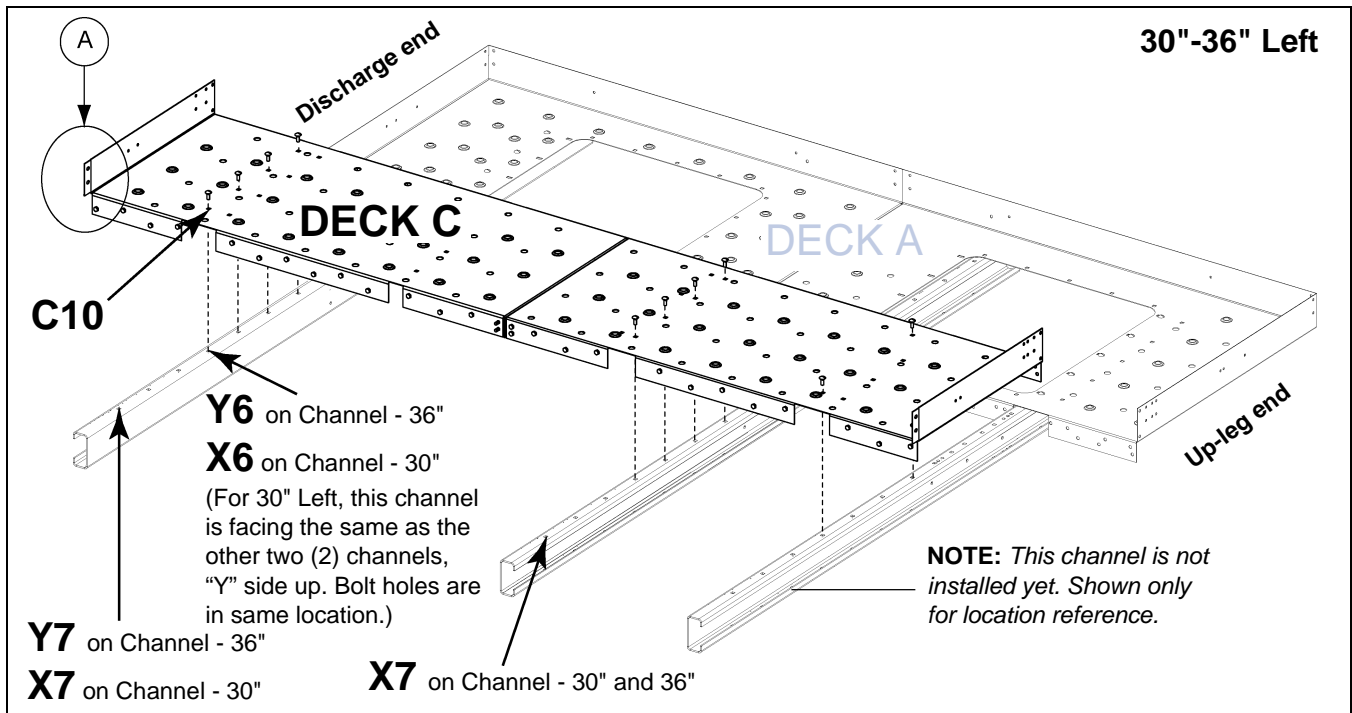
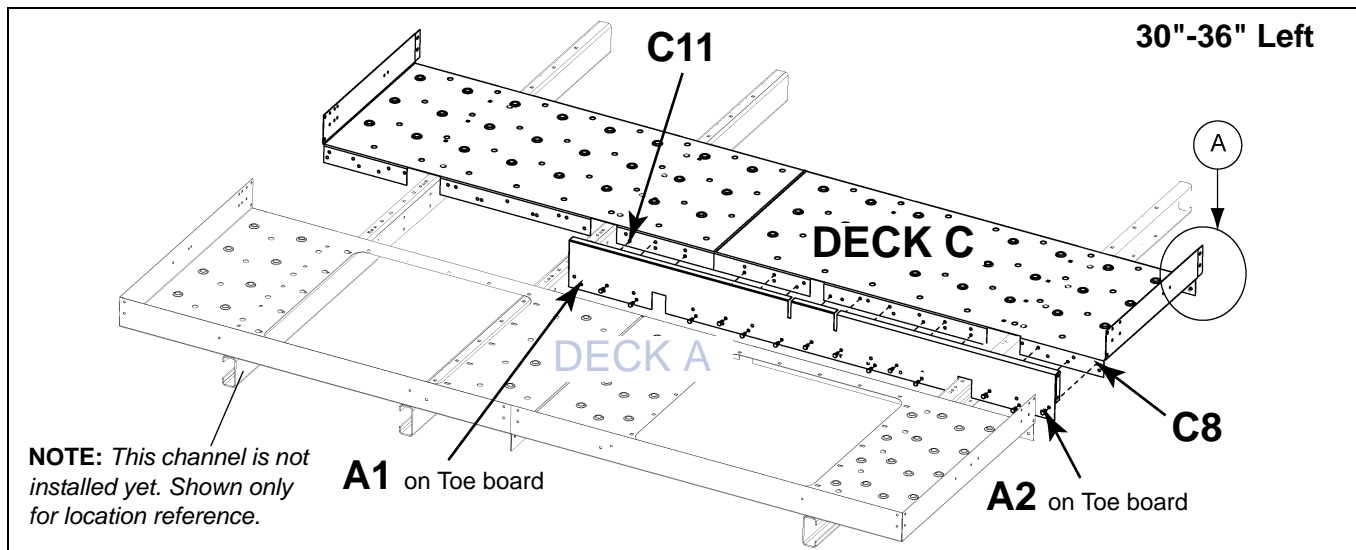

Figure 9J Deck C to Cross Deck Support Channels
Figure 9K Underside View of Deck C to Toe Board
1. Locate the pre-assembled Deck C. This deck consists of two (2) planks.
3. Make sure the extended kick plate flange of Deck C is away from the lower head assembly. *(See Figure 9J and Figure 9K on Page 76.)*